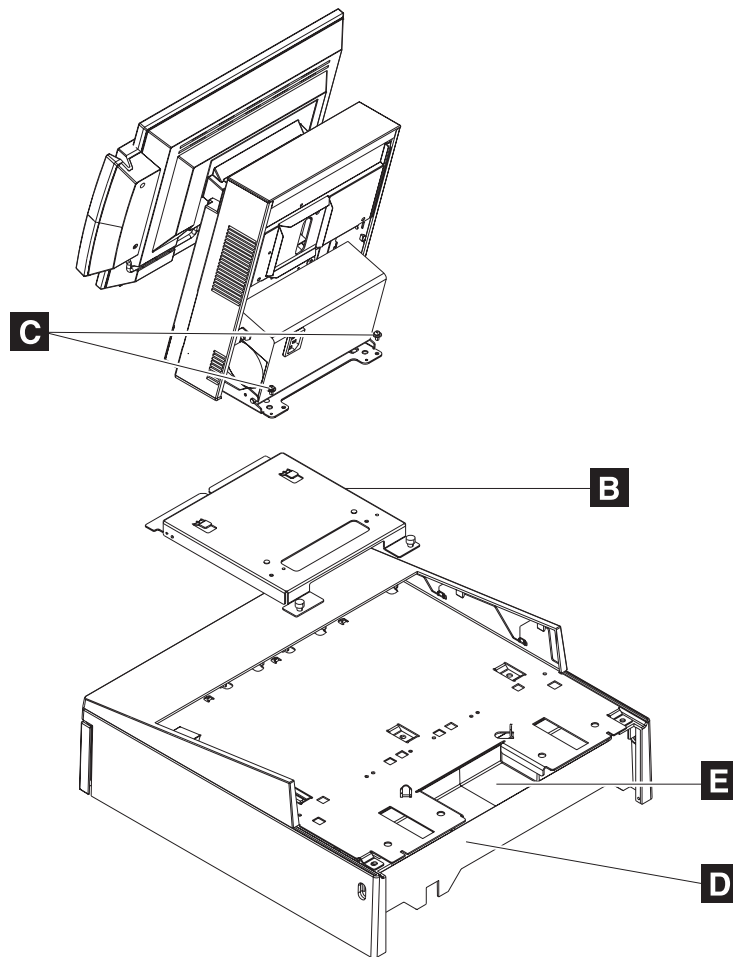

Figure 22. Attaching a mounting plate to center of cash-drawer integration tray
- c. Attach the system base to the mounting plate **B** with the screws **C**, as shown in Figure 22.